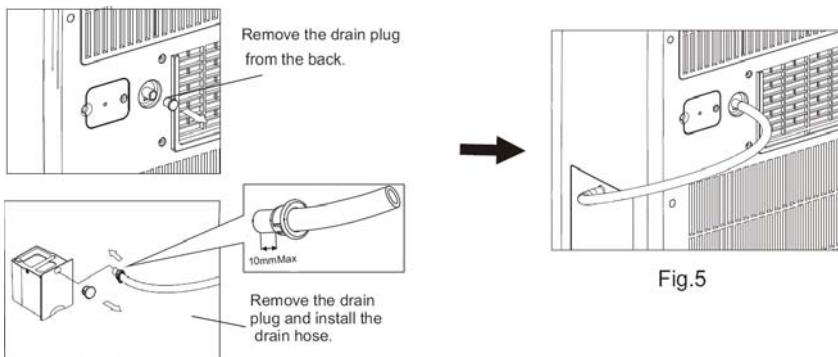

Fig.5
- Remove the drain plug from the back of the unit and connect the drain hose, then connect the other end of the drain hose to the water tank as depicted in Fig.5. So the condensed water will flow into the internal tank through the drain hose.